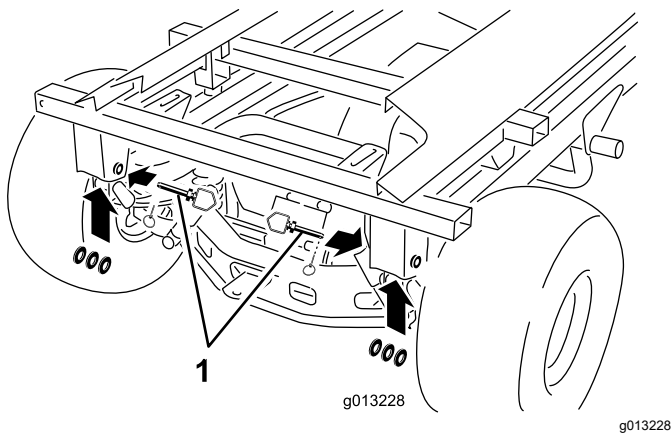

Figure 52
10. Remove the rear lynch pins, hitch pins, and washers (Figure 52).